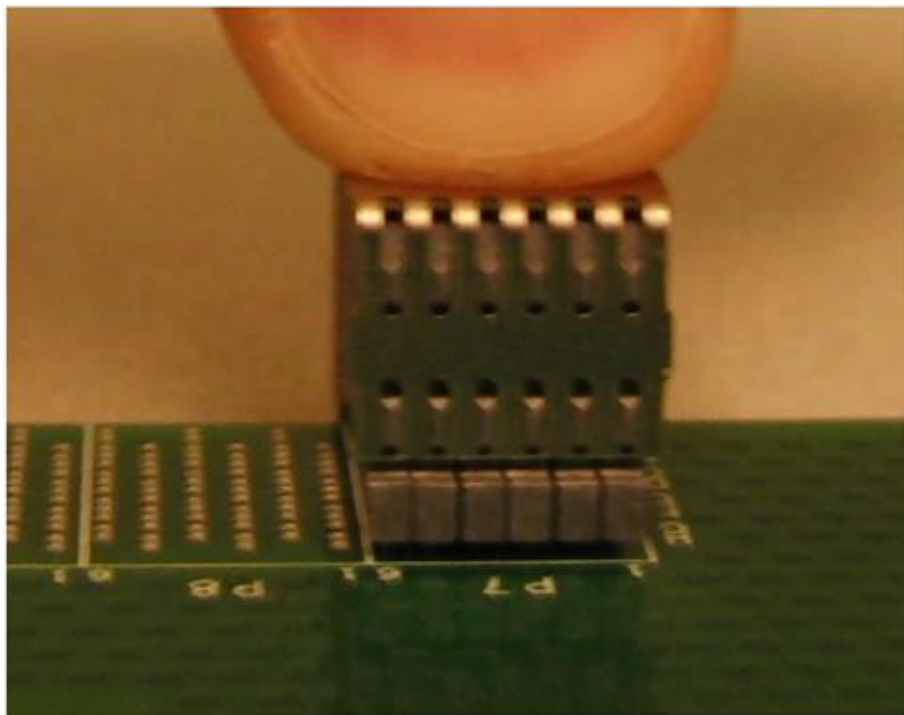

Figure 5: Rear View of the assembly. Check of bent pins.
Step 7. Check for any bent pins protruding from under the connector assembly (see Figure 5).